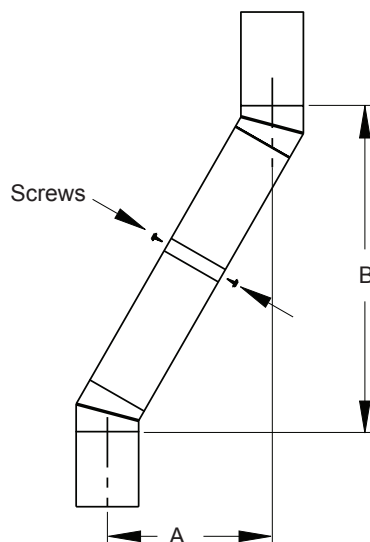

Figure 10 - Elbow Offset
Continue to assemble chimney sections as outlined, making sure that both inner and outer pipe sections are locked together. When installing double wall snap-lock chimney together, it is important to assure joint between chimney sections is locked. Check by pulling chimney upward after locking. Chimney will not come apart if properly locked. It is not necessary to add screws to keep chimney together (exception - see Figure 10, page 9).
4. All pipe connections between offset and return must be secured with two screws on outer pipe only (see Figure 10, page 9). Do not penetrate inner stainless.